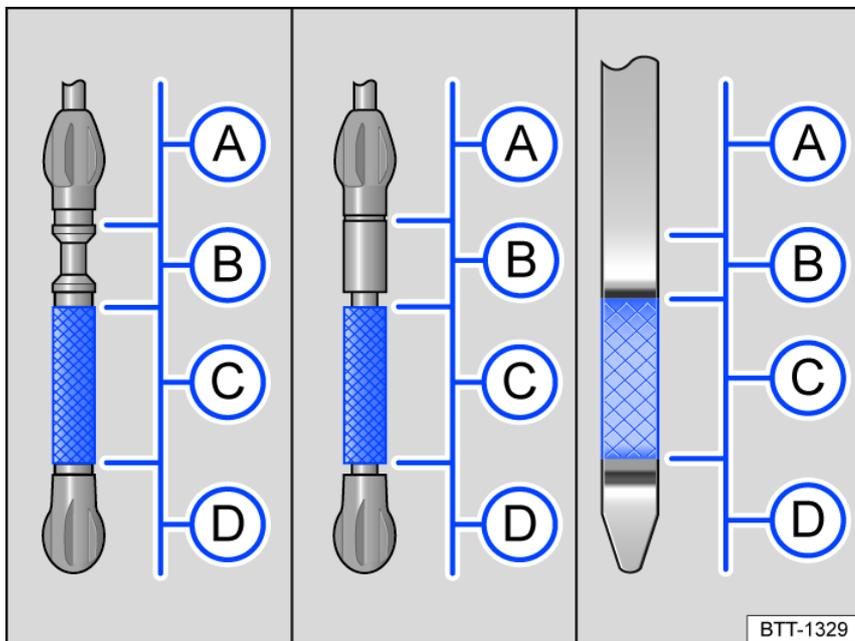

Fig. 193 Engine oil level markings on the oil dipstick (versions).
Key for *fig. 193*:
7. Remove the dipstick again and read the oil level on the dipstick as described below *fig. 193*:
13. When you are done adding oil, the oil level should be in the center of area *fig. 193* **C**. It should not be above **C**, it should be in area **B**, and it must not be in area **A** → **!**.
14. If you accidentally add too much oil and the oil level is in area *fig. 193* **A**, **do not start the engine**. Contact an authorized Volkswagen dealer or authorized Volkswagen Service Facility for assistance.
- If you accidentally add too much oil and the oil level is in area *fig. 193* **A**, do not start the engine. Contact an authorized Volkswagen dealer or authorized Volkswagen Service Facility for assistance if necessary. Otherwise, the catalytic converter and the engine could be damaged.
B The engine oil level must not be above area *fig. 193*. Otherwise, oil could be drawn into the crankcase vent and enter the atmosphere through the exhaust system.